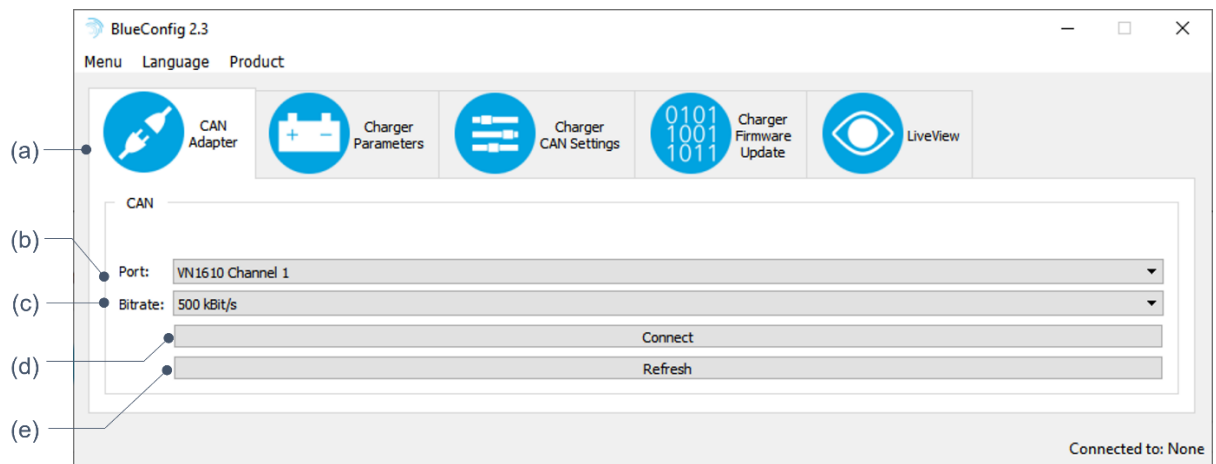

Figure 7: "BlueConfig" interface
2. Make sure that the tab "CAN Adapter" **(a)** is prominent (see Figure 7).